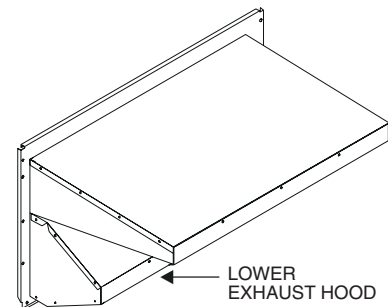

Fig. 22 — Completed Hood Assembly
5. Install the complete hood assembly on the unit, and secure using the screws provided. See Fig. 22.